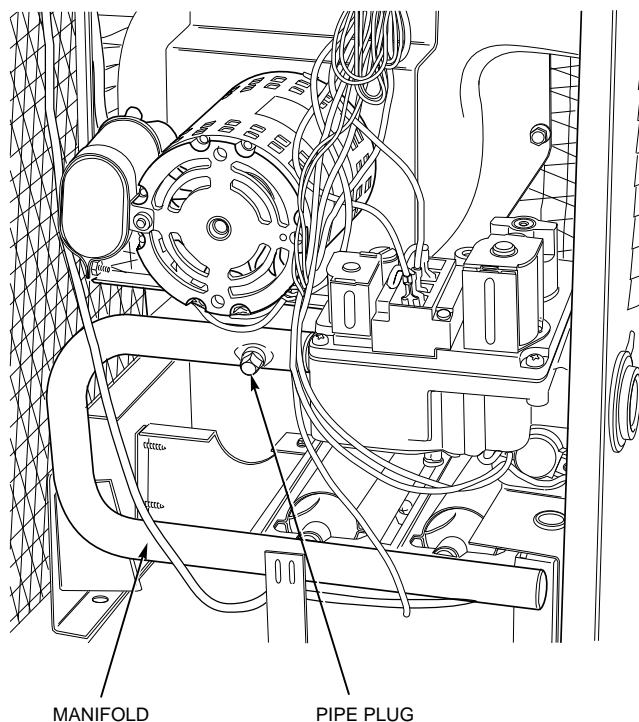

Fig. 24 — Burner Assembly
2. Remove pipe plug on manifold (see Fig. 24), then connect manometer at this point. Turn on gas to unit.
2. Remove pipe plug on manifold (see Fig. 24), then connect manometer at this point.